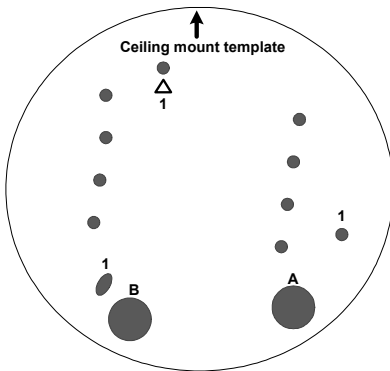

Figure 15-10
- D. Depending on how you want to run the wires (see step 5). Drill the right hole (Figure 15-10) for position A and the left for position B or both if required.